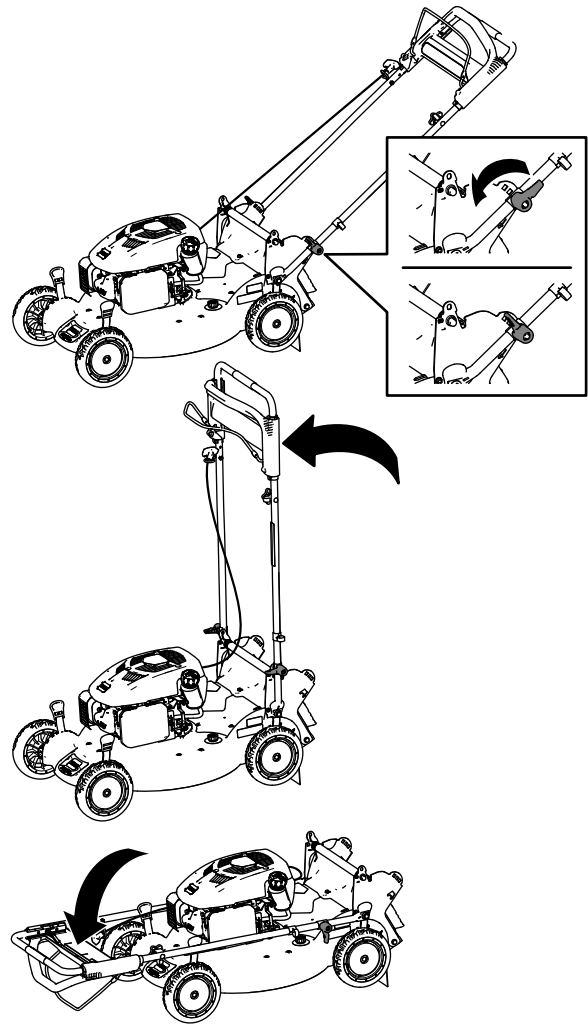

Figure 25
2. Rotate the handle forward (Figure 25).